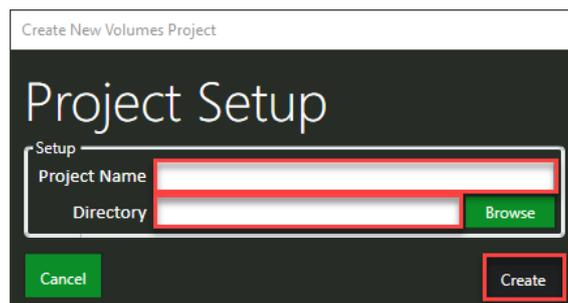

Figure 48. New Project Creation Dialog.
- a. At the *Create New Volumes Project* dialog (Figure 48).